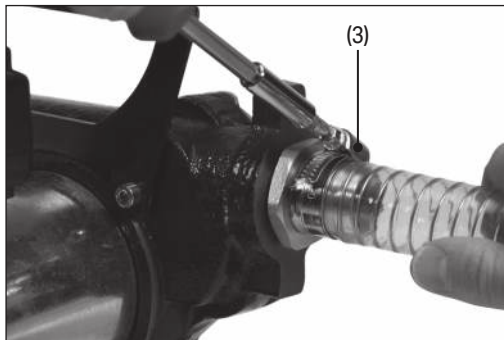

Fig. 4
d. Ensure that the hose clamps (3) at both ends of the inlet hose are tightly secured; turn the clamp screws clockwise to tighten if necessary (Fig. 4).
- a. Ensure that each end of the outlet hose (D) is clean and fitted with an O-ring (D2) seal.